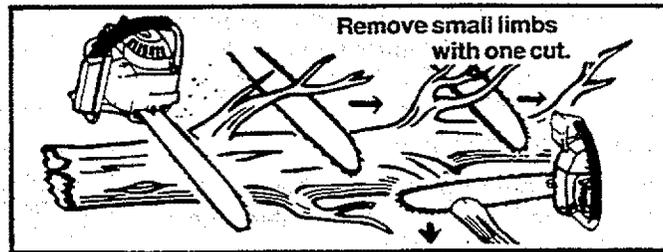

Figure 34
- Start at the base of the felled tree and work towards the top, cutting branches and limbs. Remove small limbs with one cut. Figure 34.